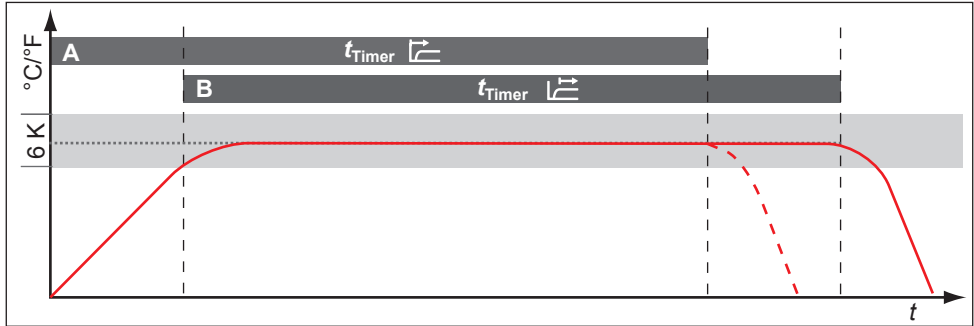

Fig. 26 Timer mode
Here, you can choose whether the digital backwards counter with target time setting (see page 30, timer) should run setpoint-dependent or not – this determines whether the timer should not start until a tolerance band of  $\pm 3$  K around the set temperature is reached (Fig. 26, B) or whether it should start right after activation (A).